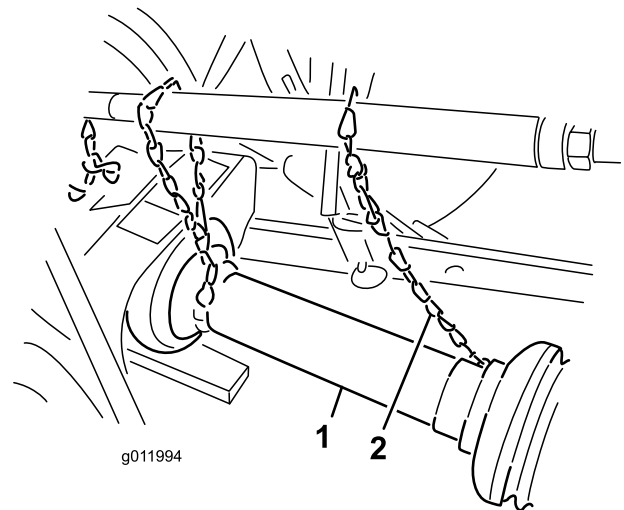

Figure 6
4. Depress the pin to secure the PTO shaft in place and slide the PTO shaft back and forth to ensure that it is properly locked (Figure 6).
5. Connect the shield safety chains from the power shaft sections to the welded clips on the link arms or to the PTO shields (Figure 6).